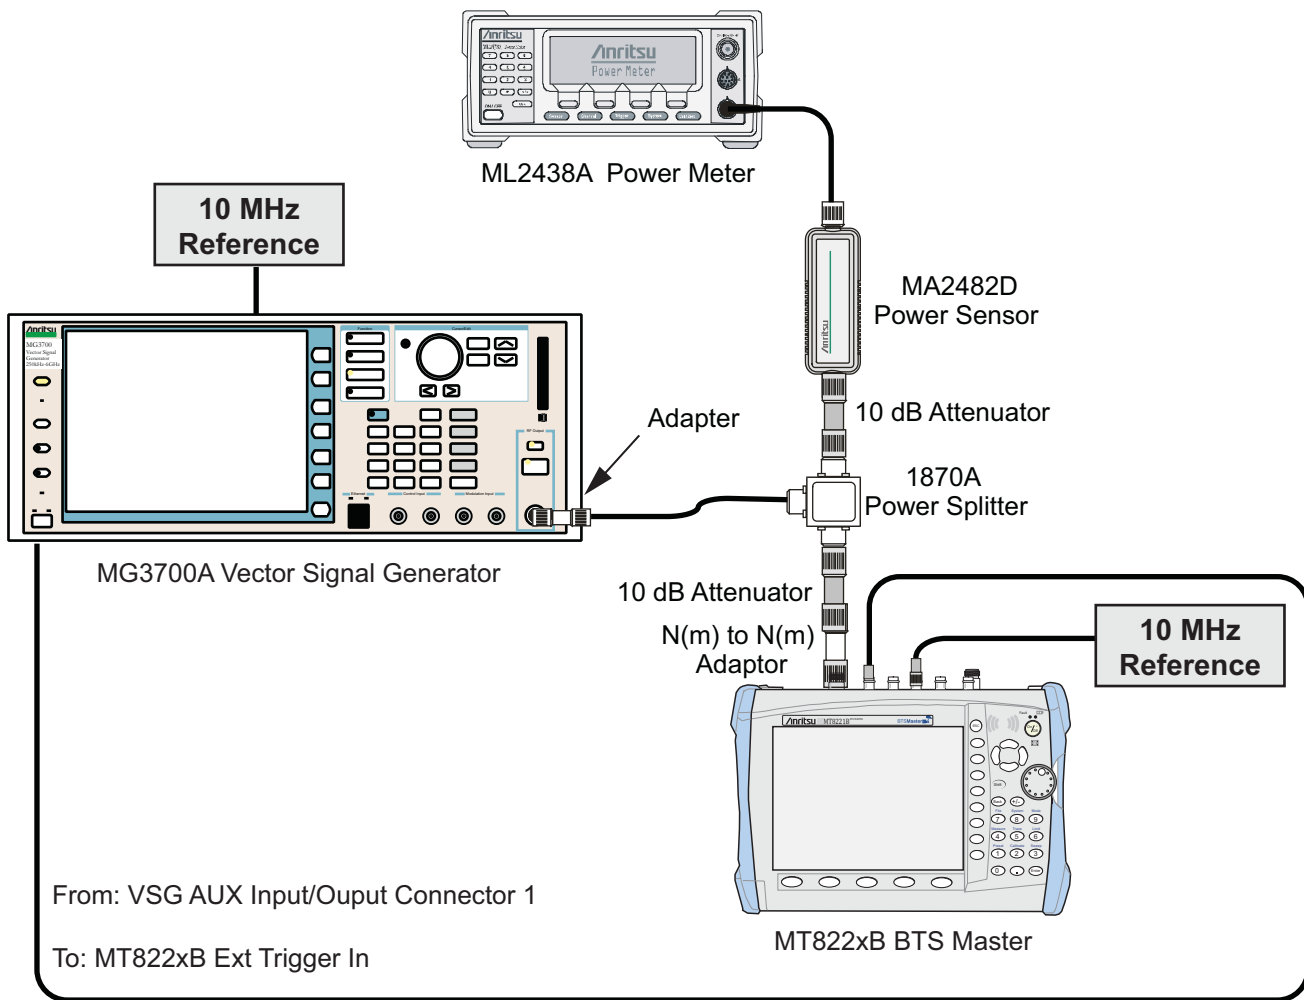

Figure 5-7. TD-SCDMA Signal Analyzer Option Verification
2. Connect the equipment as shown in Figure 5-7.